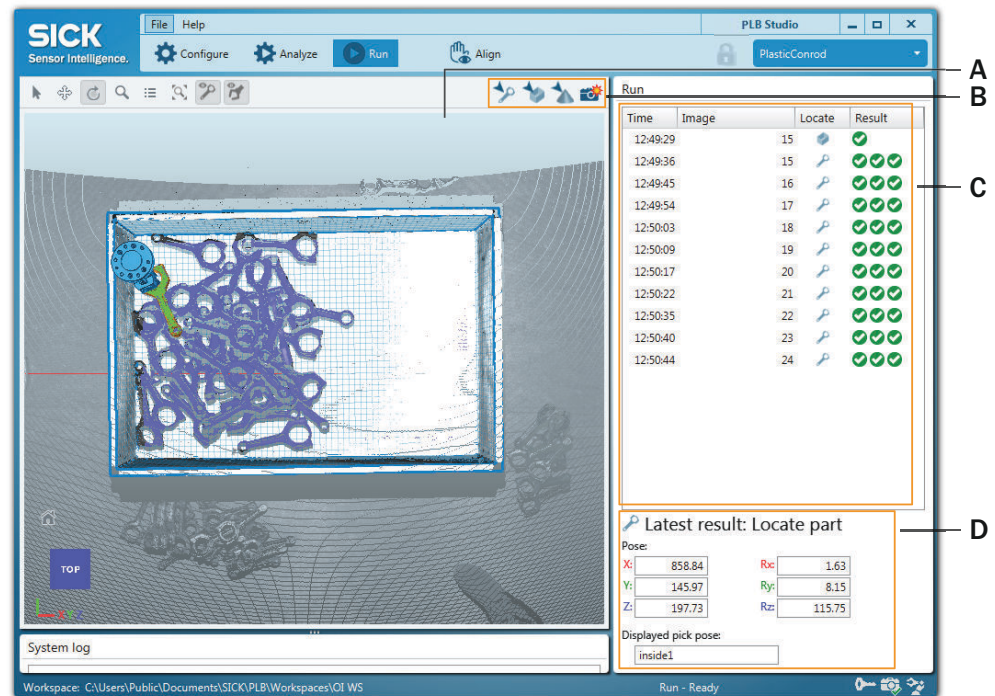

Figure 76: PLB Studio, Run mode
In **Run** mode, the following information is displayed at runtime (see figure 76, page 83):
- Result log (**C**), see description below figure 76 for further details